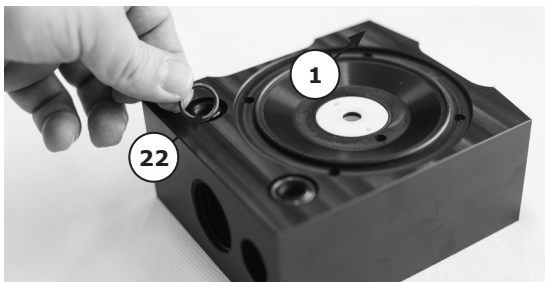

Figure 5
Remove the muffer and the housing o-rings (22) (see figure 5).